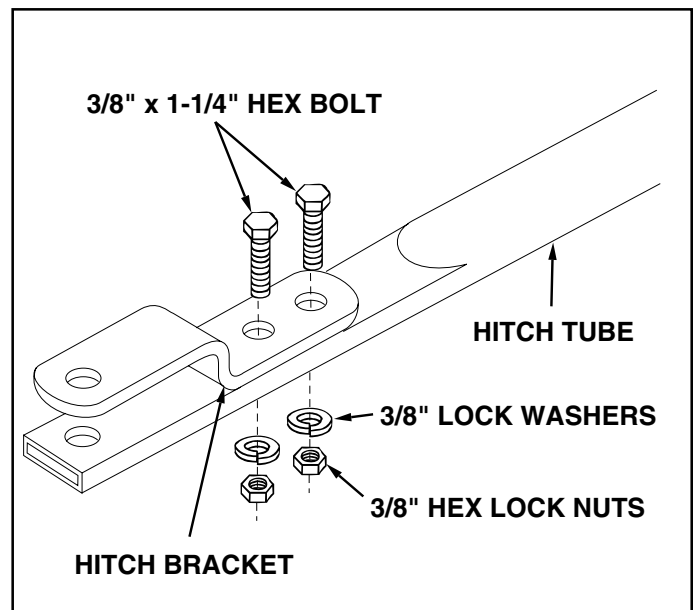

FIGURE 8
12. Assemble the hitch bracket to the hitch tube. See figure 8. Secure with two 3/8" x 1-1/4" hex bolts, 3/8" lock washers and 3/8" lock nuts. See figure 8.